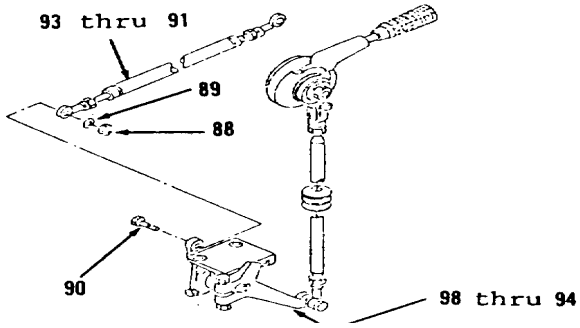

Figure 3-166.
- 20. Position items 93 thru 91 as an assembly (Figure 3-166) on vehicle.
- 21. Install bolt (90), washer (89) and nut (88).